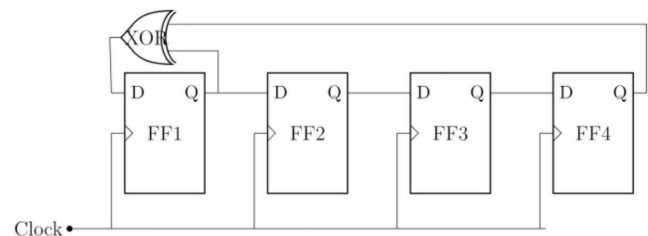

Fig. 3. Connection in XOR gate
- 4) We then connect the XOR gate (7486 IC) to the system of D-Flip flops (shift register) according to the figure 3